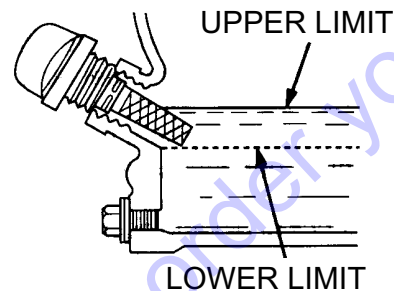

Figure 6. Engine Oil Dipstick (Oil Level)
4. If the oil level is low (See Figure 6), fill to the edge of the oil filler hole with the recommended oil type (Table 5). Maximum oil capacity is 0.61 quarts (0.58 liters).